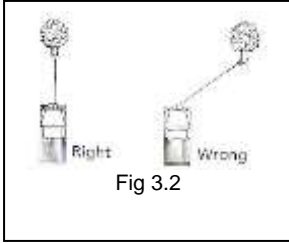

Fig 3.2
**! CAUTION** Do not winch from an acute angle as the wire rope will pile up on one side of the drum causing damage to wire rope and the winch. Fig 3.2